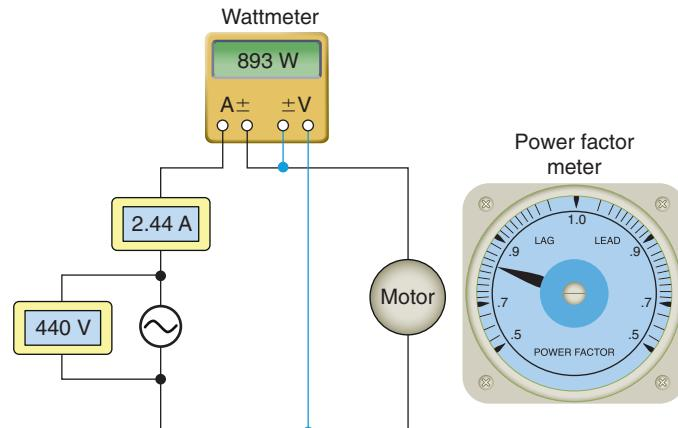

Figure 5-41 Motor power factor (PF).
You may recall that **power factor (PF)**, Figure 5-41, is defined as the ratio of the actual (or true) power (watts) to the apparent power (volt-amperes) and is a measure of how effectively the current drawn by a motor is converted into useful work. The motor exciting current and reactive power under load remain about the same as at no